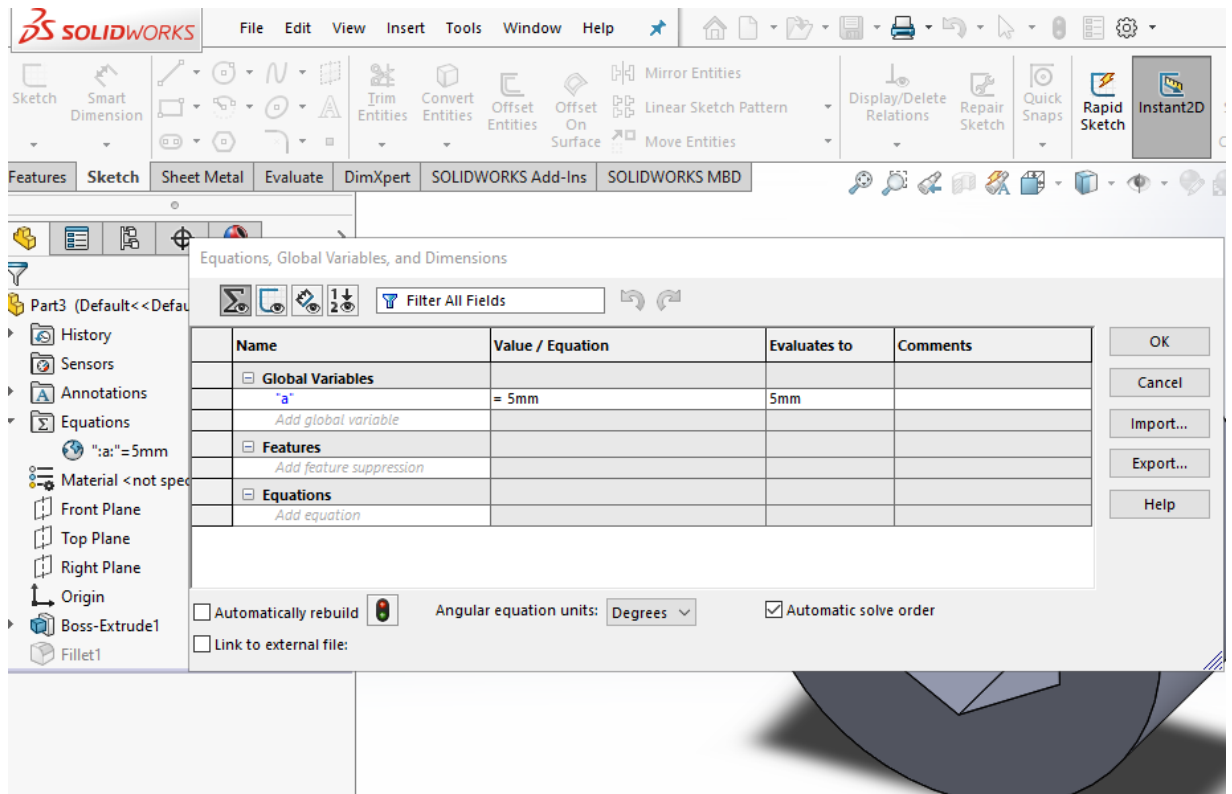

Figure 30 – Adding a global variable to the *Equations* table
2. Add a variable (eg 'a') to the table in the *Global Variables* section and its value (Fig. 30). After you finish entering the global variable, click the button .